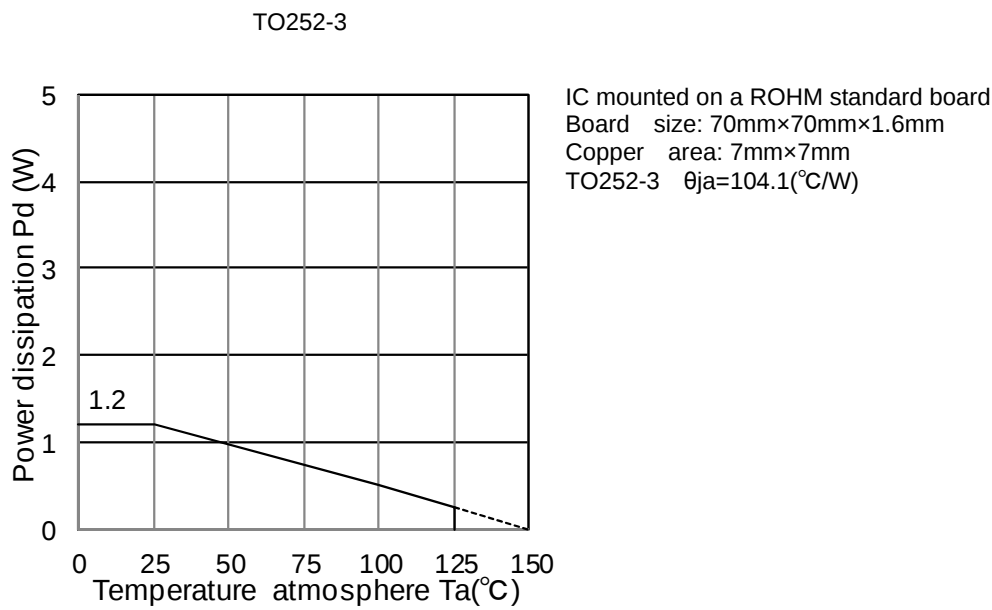
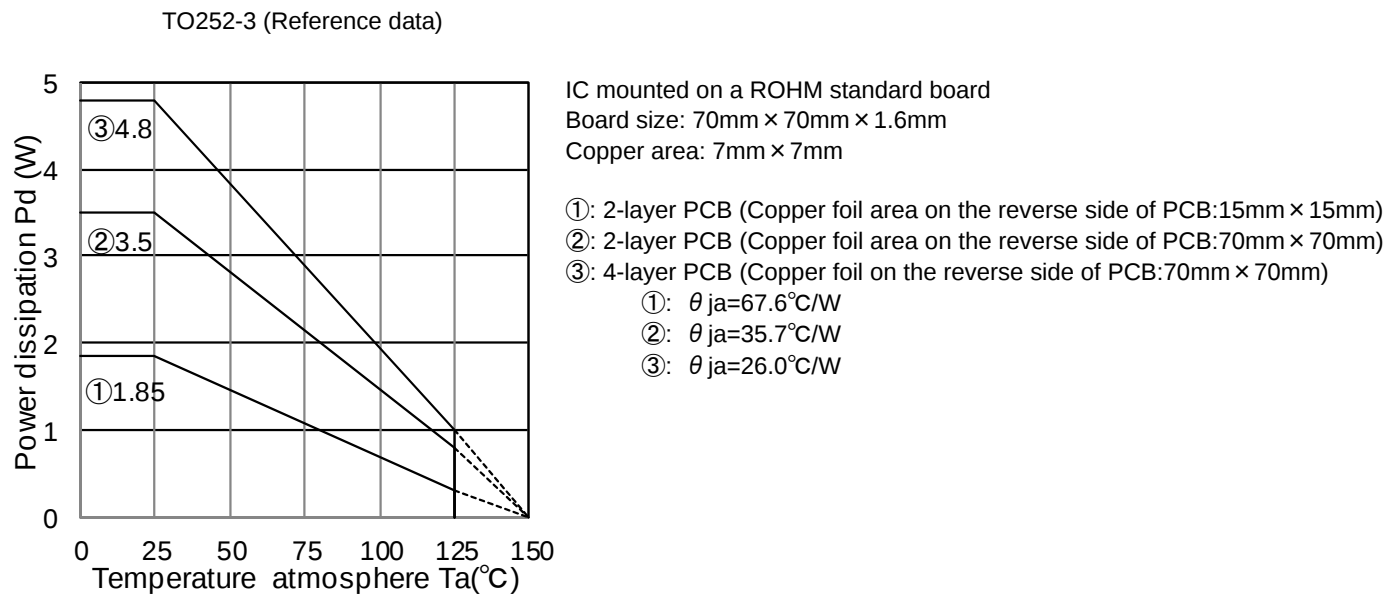

Figure .25
Figure .26
Refer to the heat mitigation characteristics illustrated in Figure 25. and Figure 26. when using the IC in an environment of $T_a \geq 25^\circ\text{C}$. The characteristics of the IC are greatly influenced by the operating temperature, and it is necessary to operate under the maximum junction temperature T_{max} .
Figure 25. and Figure 26. show the power dissipation and heat mitigation characteristics of the TO252-3 package. Even if the ambient temperature T_a is at 25°C it is possible that the junction temperature T_j reaches high temperatures. Therefore, the IC should be operated within the power dissipation range.
At $T_a = 125^\circ\text{C}$ with Figure 26 ③ condition, the calculation shows that ca 93mA of output current is possible at 10.2V potential difference across input and output.
At $T_a = 125^\circ\text{C}$ with Figure 26 ③ condition, the calculation shows that ca 112mA of output current is possible at 8.5V potential difference across input and output.